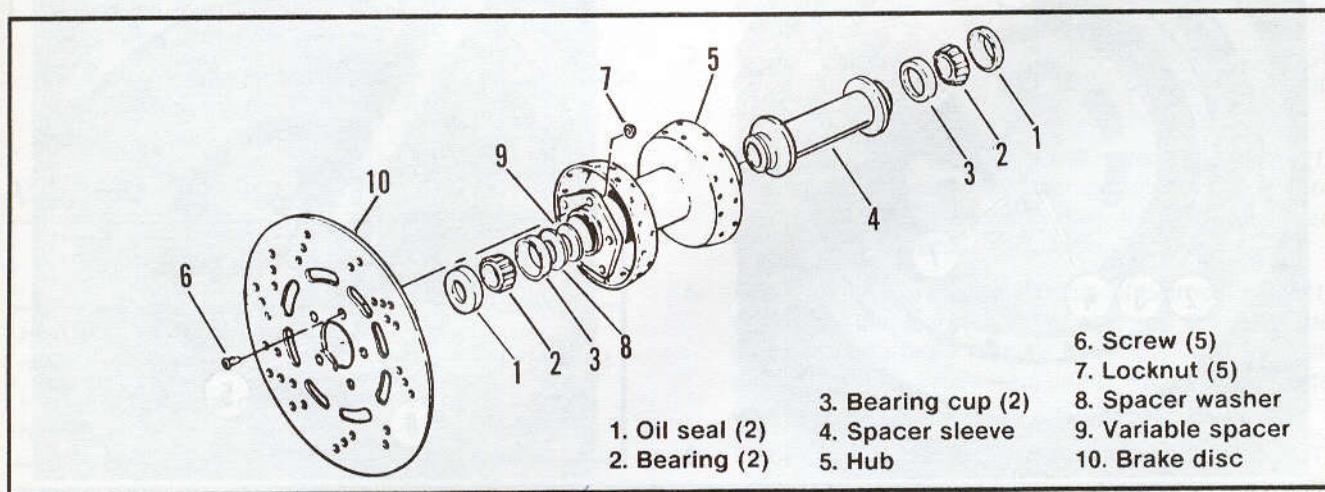

Figure 2-10. 1992 Hub Assembly
1992 models - thicker or thinner spacer (10, Figure 2-10)
2. See Figure 2-10. Remove the oil seals (1), bearings (2), spacer washer (8), variable spacer(s) (9), and sleeve (4).
3. If it is necessary to remove the bearing cups (3), use WHEEL BEARING RACE REMOVER & INSTALLER, Part No. HD-33071 and UNIVERSAL DRIVER HANDLE, Part No. HD-33416.
4. Remove the Torx screws (6) and locknuts (7) securing the brake disc (10). Mark the wheel and disc so they will be assembled in their original positions.
ASSEMBLY - 1992 HUB (Figure 2-10)
DISASSEMBLY (Figure 2-10)
ASSEMBLY (Figure 2-10)
REMOVAL (Figure 2-10)